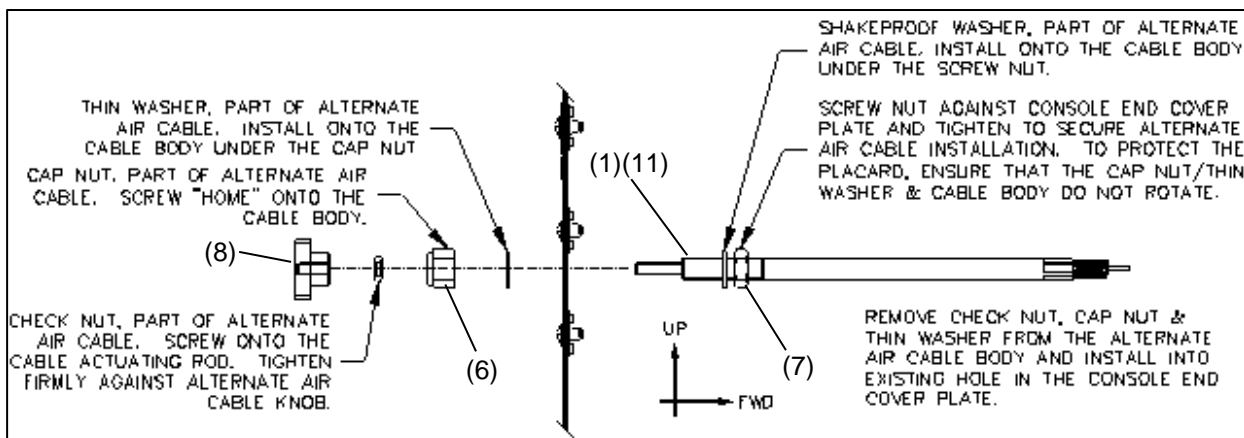

Figure 3 – Console cable installation (exploded view)
3. Hold the Cap Nut (6) and loosen the Nut (7) from console end cover, then hold the Cable (1) and loosen the Cap Nut (6). Release the Cable Knob (8) from the Cable (1). See Figure 3;
4. Remove and discard the Alternate Air Cable P/N GA8-716013-15 (1).
3. Take the new Alternate Air Cable P/N GA8-716013-17 (11) and install it following the instructions on Figure 3, Figure 4, Figure 5, Figure 6 and Figure 7.